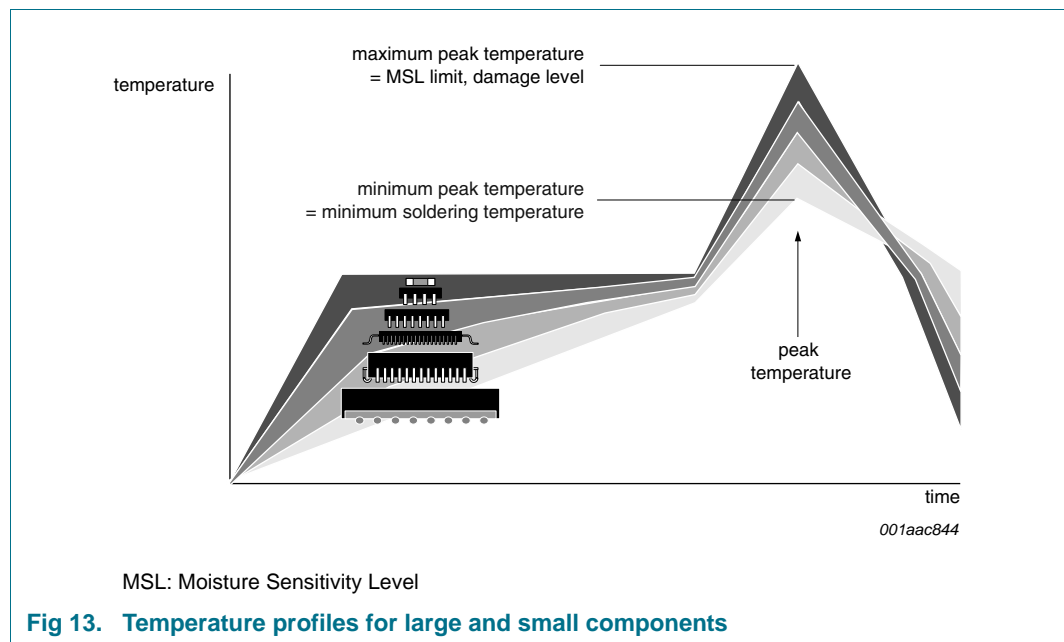

Fig 13. Temperature profiles for large and small components
- Lead-free versus SnPb soldering; note that a lead-free reflow process usually leads to higher minimum peak temperatures (see Figure 13) than a PbSn process, thus reducing the process window
Studies have shown that small packages reach higher temperatures during reflow soldering, see Figure 13.
Modifications	<ul style="list-style-type: none"> • Table 1 “Ordering information”: Removed type number PCA9901GD (row) • Table 2 “Ordering options”: <ul style="list-style-type: none"> – Removed PCA9901GD – Changed Topside mark for PCA9901UK from “P01” to “9901” • Removed (old) Section 5, “Marking” • Section 6.1 “Pinning”: removed (old) “Figure 4, Pin configuration for XSON8U” • Table 5 “Static characteristics”: <ul style="list-style-type: none"> – Typical value for V_{POR} corrected from “1.8 V” to “2.0 V”. – Maximum value for V_{POR} corrected from “2.0 V” to “2.5 V”. • Section 13 “Package outline”: removed (old) Figure 13, “Package outline SOT996-2 (XSON8U)”